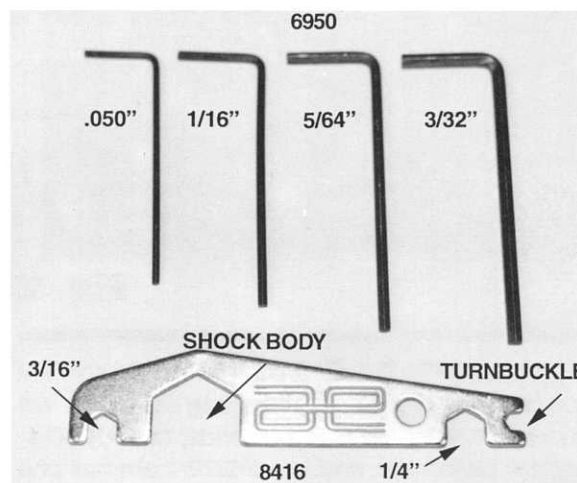
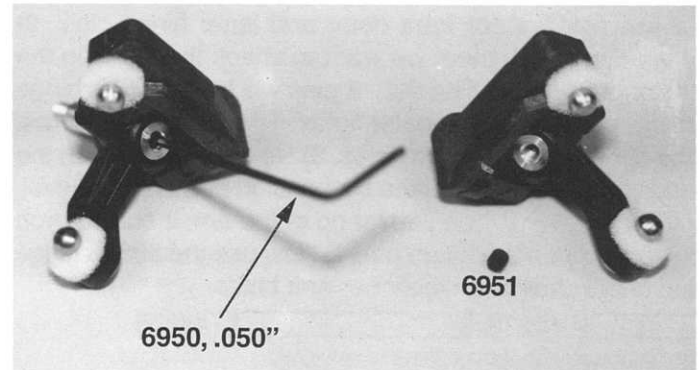

Fig. 1
Fig. 9
Fig. 1 Before we start to assemble the front end, remove the #8416 shock/turnbuckle wrench and the #6950 tool bag (which contains the four Allen wrenches) from the kit master bag. Set them aside for now; we will be using these as we go through the assembly.
□ **Fig. 9** **1)** Look into bag #8-1 again and take out the two #6951 4-40 x 1/8" socket set screws. **2)** Now we need to open up the #6950 tool bag we took out in fig. 1. Inside you will find four different size "L" shaped Allen wrenches. The smallest one will be the .050" Allen wrench which we need for this step. **Note: An Associated #6957 .050" Allen driver or similar driver would make this assembly easier and quicker.** **3)** If you rotate the steering block in the carrier block so that the two ball end are as far apart as possible, then it will expose the back side of the axle which has a small threaded hole in it. Use your .050" Allen wrench to install a set screw into each axle, then **4)** tighten the set screw against the kingpin. **5)** Make sure the steering block pivots smoothly inside each of the carrier blocks.